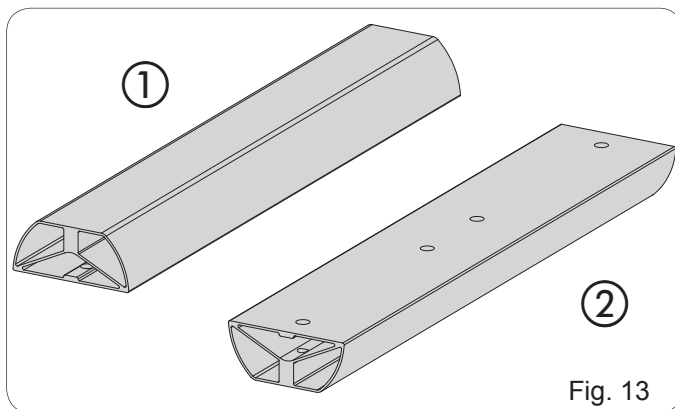
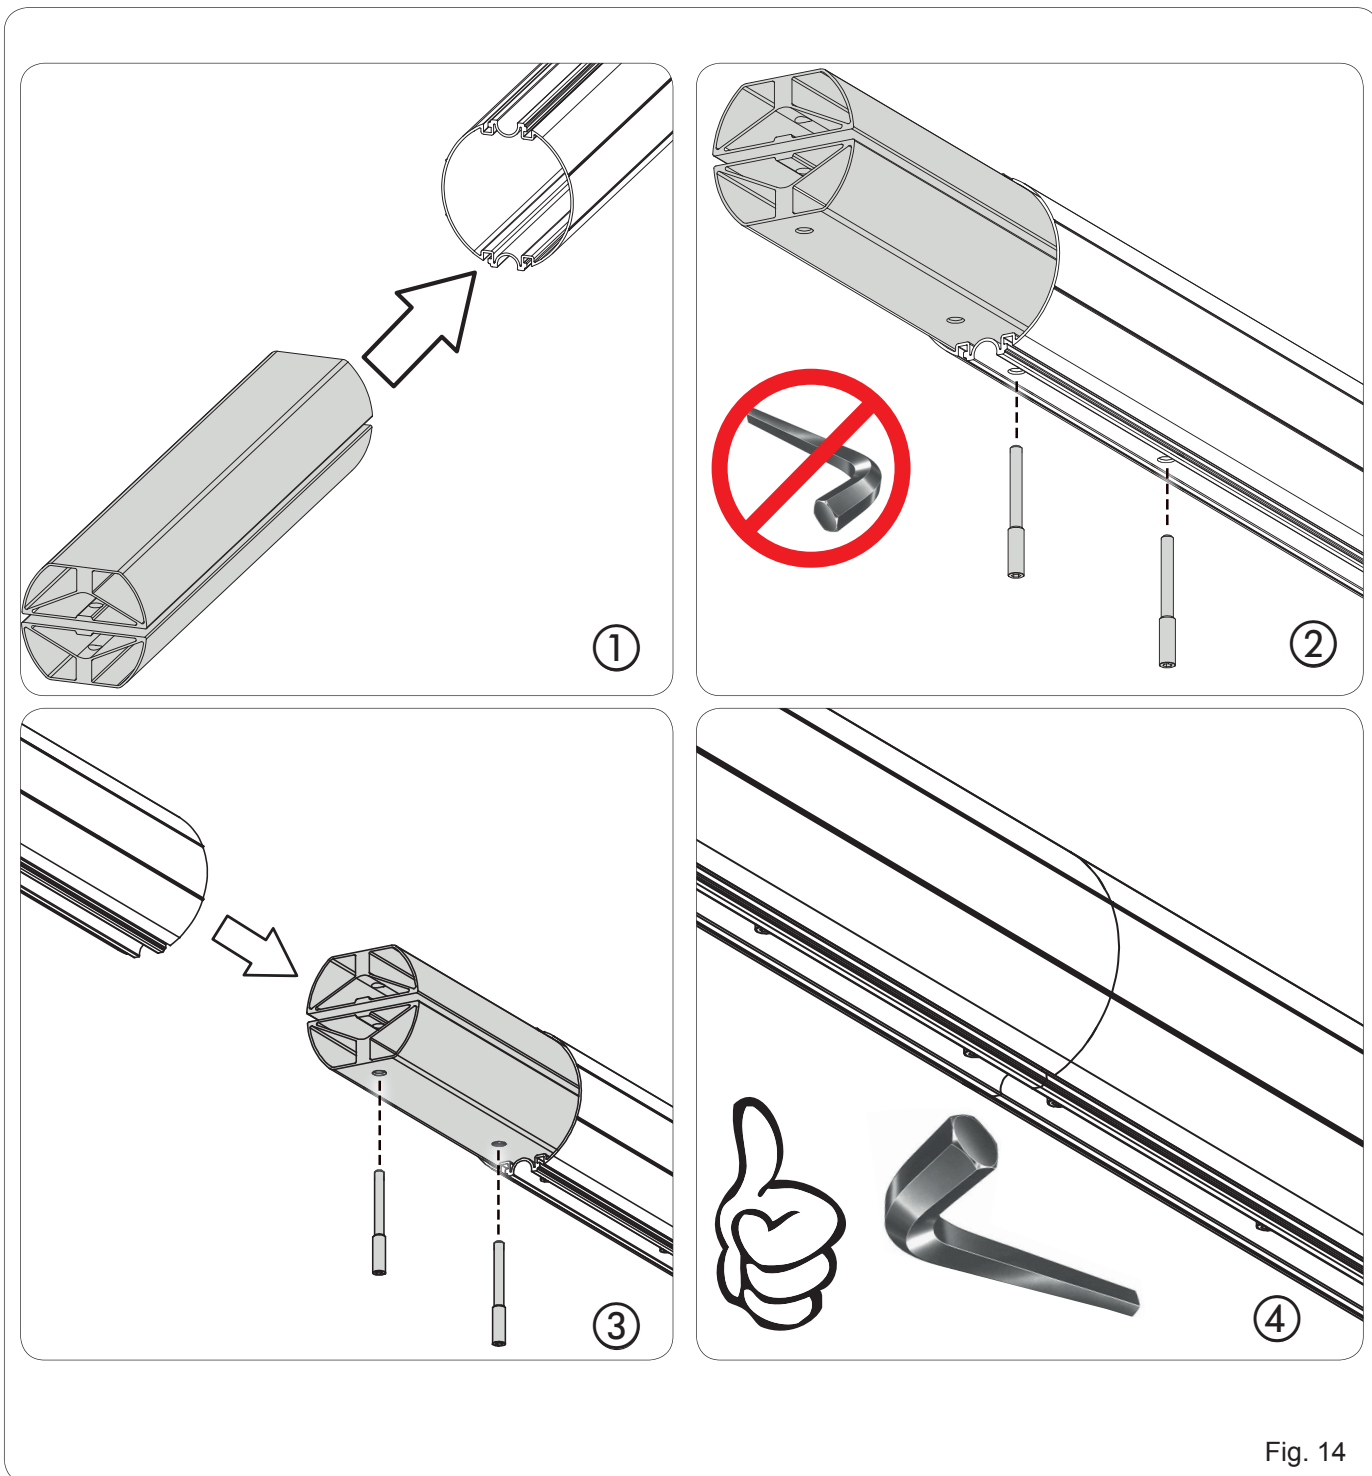

Fig. 13
Fig. 14
- If the application requires a sectional arm, prepare the joint as shown in Fig. 13 and follow the steps shown in Fig 14 from ① to ④ to add the additional section